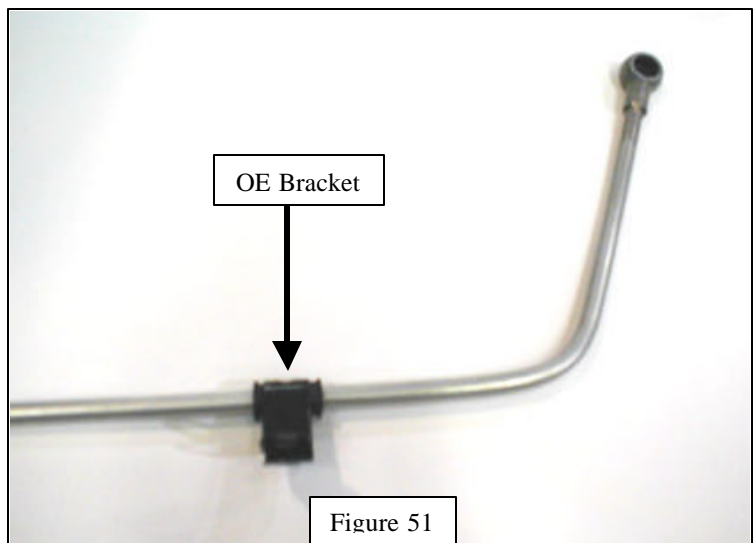

Figure 51
25. Position the OE front fuel pipe bracket removed in Step 25 (Part B, Page 7) onto the supplied 9th injector fuel delivery line. Position the bracket 10 1/2" from the banjo centerline along the longest straight section of the tube (Figure 51).